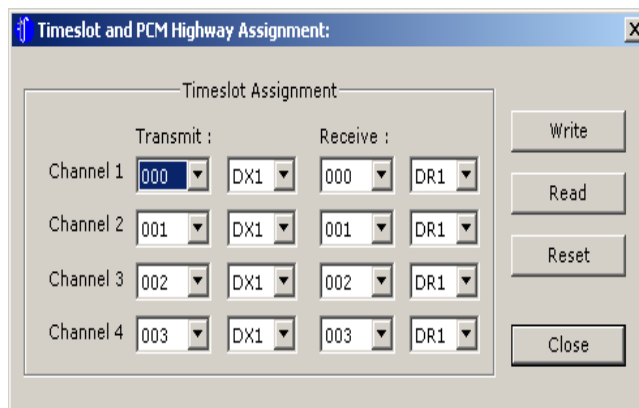

FIGURE 9. TIMESLOT & PCM HIGHWAY ASSIGNMENT SCREEN
This test will demonstrate an end to end phone conversation between Channel 1 and Channel 2. Setting up an end to end phone conversation is accomplished with the Timeslot and PCM Highway Assignment screen (Figure 9). The user can select any time slot for Channels transmit and receive. If the time slot assigned to the receive path of Channel X is the same one assigned to the transmit path of Channel Y, and the time slot assigned to the transmit path of Channel X is the same one assigned to the receive path of Channel Y, then Channel X and Channel Y can communicate with each other.
4. From GCI Software screen, in the GCI General Setting section, select Linear mode. This will enable you to select Time Slot. Click on the Time Slot button. The Timeslot and PCM Highway Assignment screen will appear (Figure 9).